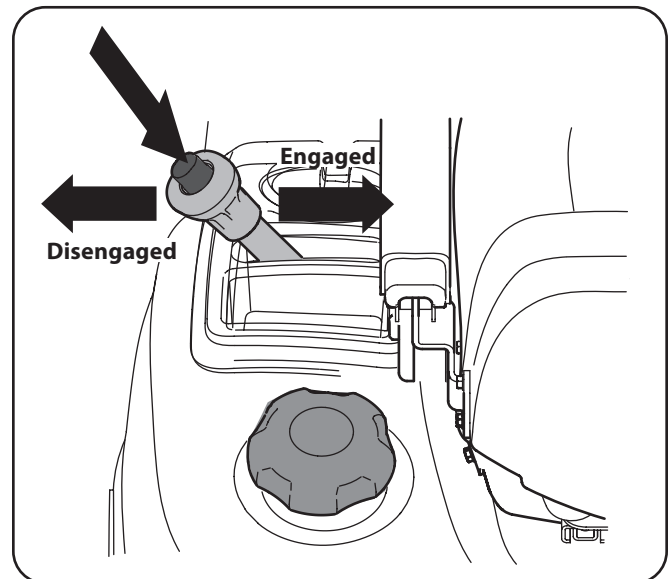

Figure 5-4
2. With the brake engaged, press down on the button on the differential lock handle and move the handle in to engage the differential lock. The indicator light on the dash will illuminate when the system is activated. See Figure 5-4.
3. To disengage the differential lock, stop the motion of the tractor, engage the brake, press down on the button and move the handle out. Release the handle to lock into place. The indicator light will go off when the system is off. See Figure 5-4.